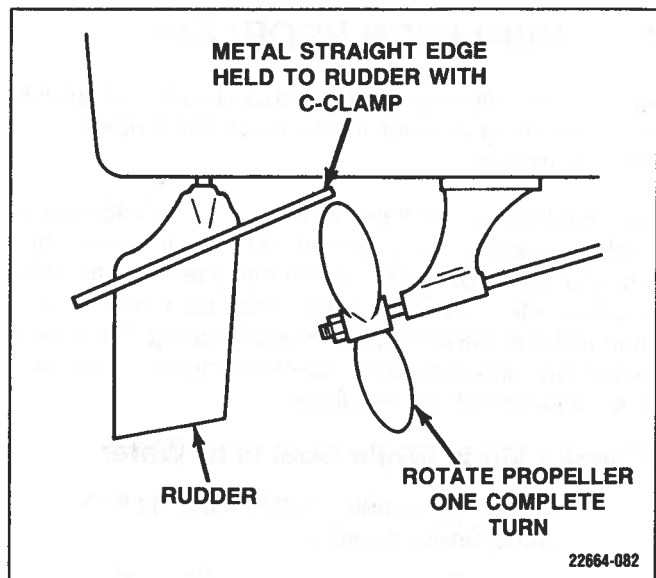

Figure 11-15. Checking Propeller Diameter
3. Check the radius of all propeller blades (Figure 11-15). If not the same, repair propeller.